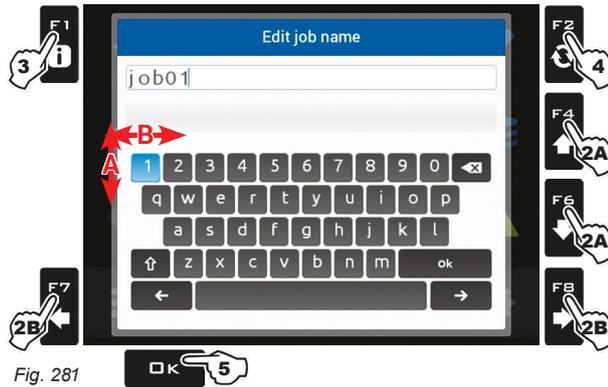

Fig. 281
- 1 Press **F2** to save current job: the name edit screen is displayed (Fig. 281). Type the name.